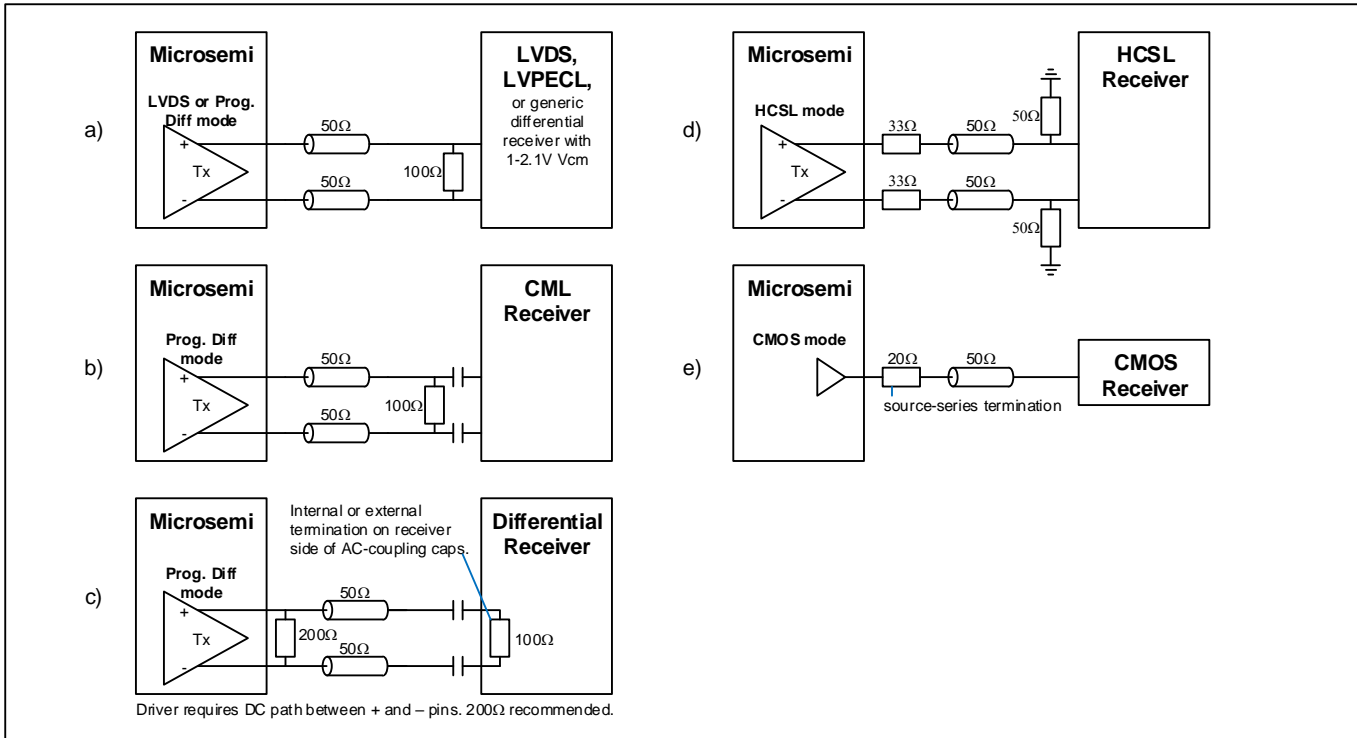

Figure 16 - Example External Components for Output Signals
**Note 1:** OCxCR2.OCsF=0001 (LVDS). Output must have 100Ω DC path between OUTxP and OUTxN to meet these VOD specs. See Figure 16 parts a) and b) for examples where this DC path is a 100Ω termination resistor at the receiver
**Note 1:** OCxCR2.OCSF=0010, OCxDIFF.VCM=1100, OCxDIFF.VOD=0101. Output must have 100Ω DC path between OUTxP and OUTxN to meet these  $V_{\text{OD}}$  specs. See Figure 16 parts a) and b) for examples where this DC path is a 100Ω termination resistor at the receiver.
Figure 16 part c) covers the case where an existing receiver has AC coupling caps followed by an internal or external 100Ω termination resistor. The driver requires a DC path between its POS and NEG pins even in this case. A 200Ω resistor is recommended. Since this arrangement attenuates the signal by one third, The `OCxDIFF.VOD` field should be set 50% higher to compensate.